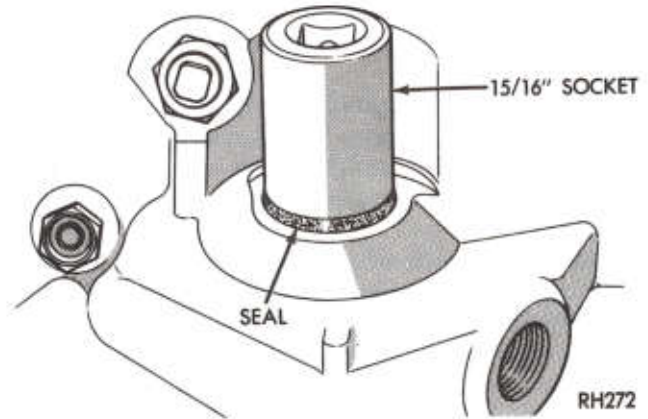

Fig. 13—Install Manual Lever Shaft Seal
- (1) If valve body manual lever shaft oil seal requires replacement, drive it out of the case with a punch.
- (2) Drive a new seal into the case with a 15/16 inch socket and hammer (Fig. 13).